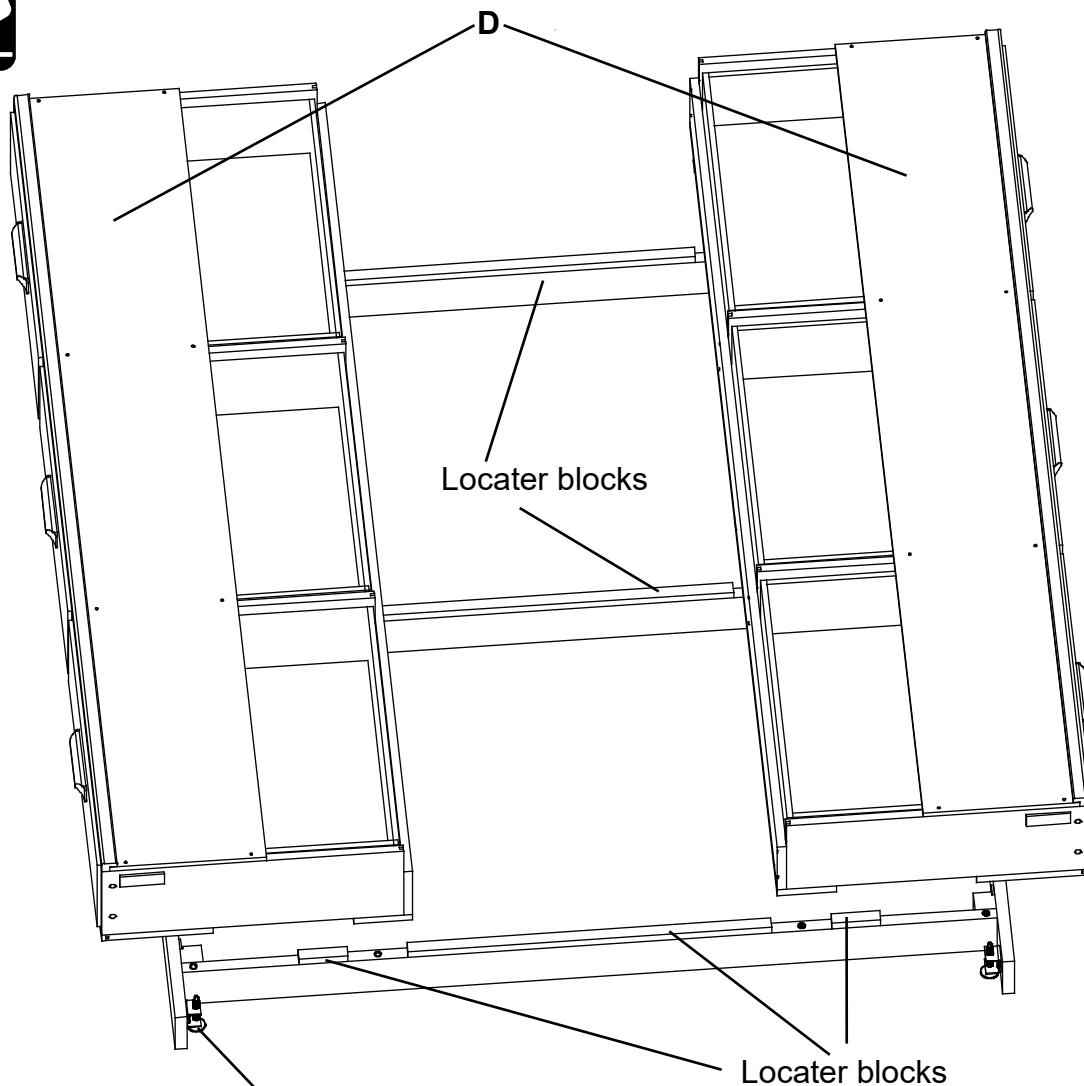

Fig. 3
3. Place each pedestal (D) on top of the base kit against the side of and between the locator blocks of the Base Kit. See Figure 3.